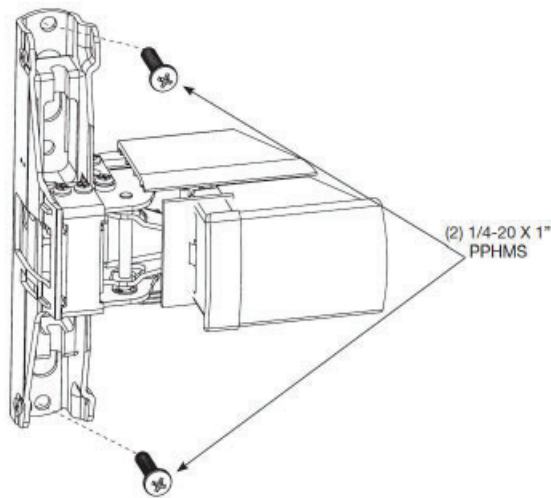

Figure 13
3. Loosely attach device assembly to door using two (2) 1/4-20 x 1" (25.4mm) PPHMS (see Figure 13, door not shown).